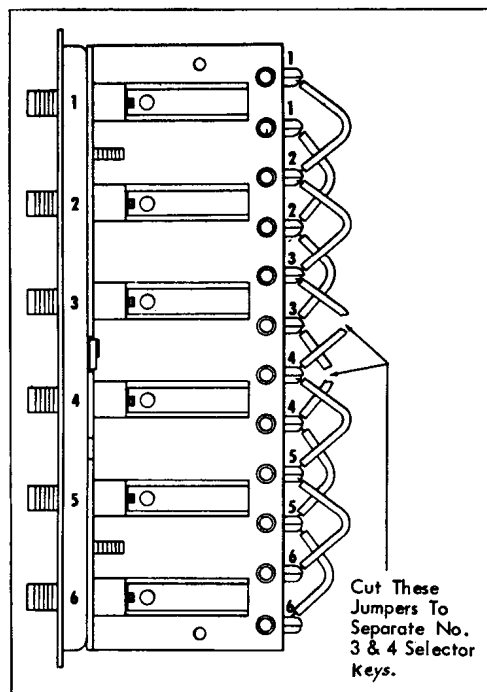

Figure 4 - Top View of Key Panel
5.09 When all connections have been made, remove the selector key panel from the front of the unit. Cut the looped common white jumper wires connecting the selector keys between the last "S" circuit master station and the first "M" circuit master station. Insulate and bend these wires to one side (see Figure 4). It should be remembered that all selector keys assigned to zero-level master stations are "M" circuit. The cutting of the jumpers is necessary in order that "S" circuit operation between master stations can be obtained if desired.